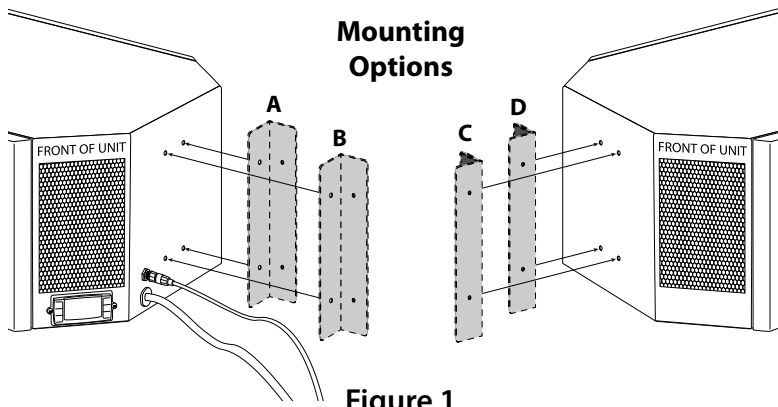
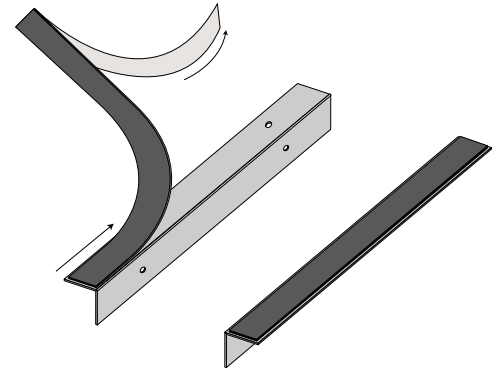

Figure 1
Figure 2
Determine which of the four bracket mounting options (displayed in Figure 1) will be the most suitable for the desired position of the Cooling Unit.
If the desired option is (A) or (B) displayed in (Figure 1), the Foam Tape should be placed as shown in (Figure 2).
If the desired option is (C) or (D) displayed in (Figure 1), the Foam Tape should be placed as shown in (Figure 3).
3. Place bottle probe securely into bottle as seen in Figure 1.